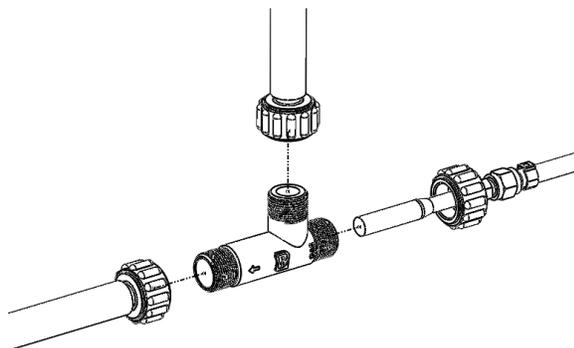

Figure 1.
2. Assemble the In-Line Oxygenation kit as shown in Figure 1.